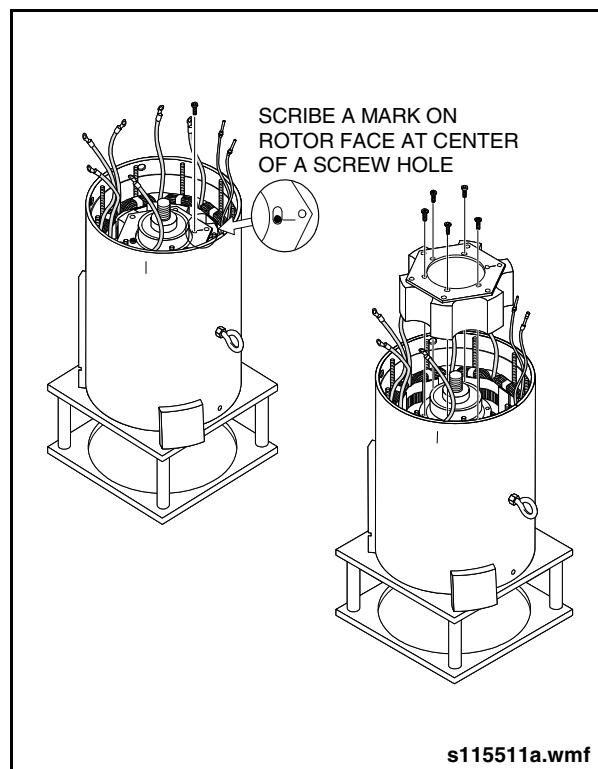

Fig. 9-19: ADE Rotor Removal
- b. Remove remaining screws and remove rotor from shaft. *See "Fig. 9-19: ADE Rotor Removal" on page 27.*